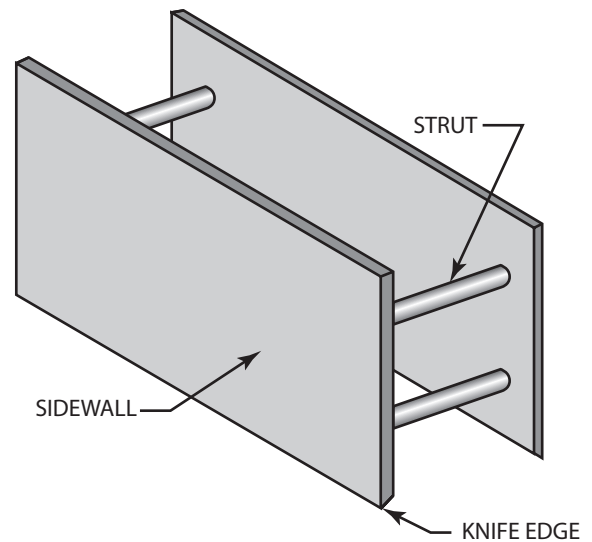

FIGURE 2-17 A metal trench box is a good way of securing the walls of excavations.
- **Shielding**—One of the most commonly used methods of protecting against cave-ins in trenches are trench boxes, **Figure 2-17**. Metal trench boxes can be easily moved along a trench or from one excavation site to another. The space between the trench wall and the wall of the trench box should be kept as small as possible.